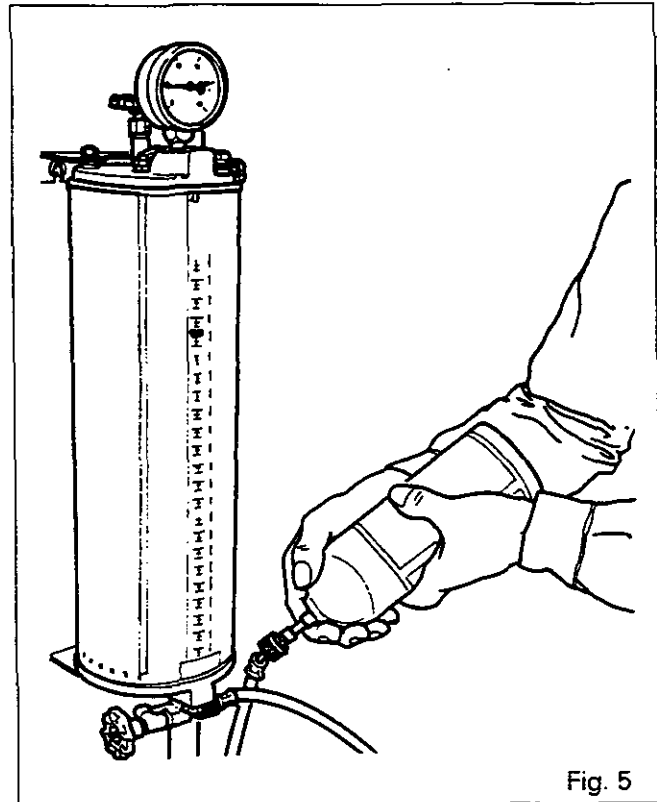

Fig. 5
1. Instructions for filling the charging cylinder from the refrigerant gas bottle (Fig. 5)